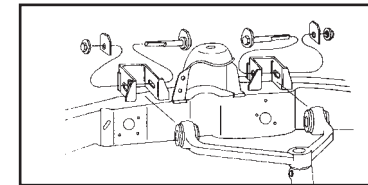
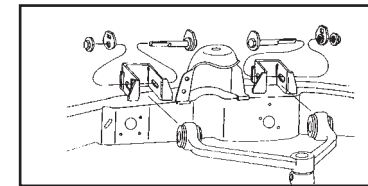
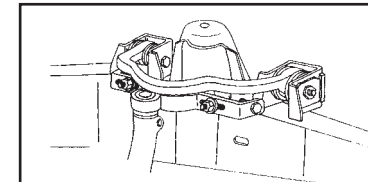

Figure No. 1
Figure No. 2
Figure No. 3
- 10) Install this assembly in vehicle in same direction as prior factory bolt (**See Figure No. 1**).
- 13) If only one side of the vehicle needs a kit, proceed with alignment. To adjust, use a 3/8" ratchet or breaker bar in square hole in cam next to nut (**See Figure No. 2**).
Los brazos de control superiores son trabados dentro del soporte del chasis por medio de cuatro placas "cuadradas" (2 por cada lado) instaladas en la fábrica (vea la figura No. 1). Estas placas tendrán que ser reemplazadas por levas de ajuste de diseño de "lágrima" con el fin de permitir el movimiento para ajustar el camber y el caster (vea la figura No. 2).
Si el vehículo tiene un problema de "avance" o de "tiro" después de haber efectuado los ajustes de alineamiento con levas, (disparidad de caster), un ajuste de caster separado es proporcionado en el brazo superior derecho de la suspensión delantera únicamente (vea la figura No. 3).
Beginning with the 1995 model year many new light trucks and sport utility vehicles manufactured by Ford Motor Company have a new suspension design. The front suspension design consists of a short/long arm suspension (SLA) with torsion bars replacing conventional coil springs. The upper control arms are locked within the frame bracket by four factory installed "square" plates (2 per side) (see figure No.1). These plates must be replaced with "tear drop" designed adjusting cams to allow movement for the adjustment of camber and caster see figure No. 2). If the vehicle has a "lead" or "pull" problem after alignment adjustments have been made with cams, (caster disparity) a separate caster adjustment is provided on the right upper front suspension arm only (see figure No.3).
- 7.) Install "Quick Cam" onto factory bolt in place of "square" plate with washer (spacer) against upper control arm bracket. This spacer provides clearance so cam does not bind against inside corners of bracket (see figure No. 2).
- 7.) Instale la leva "Quick Cam" en el perno de fábrica a cambio de las placas "cuadradas" con la arandela (espaciador) contra el soporte del brazo de control superior. Este espaciador suministra holgura de modo que la leva no se roce contra las esquinas interiores del soporte (vea la figura No. 2).
1. Remove both square factory fixed plates (on each shaft assembly 2-per side) (See Figure No. 1).
Note: There is a camber/caster alignment tool available from your alignment products supplier which allows you to push, pull, or hold the control arm in the frame slots to attain alignment specifications quickly (See Figure No. 2).
Rear camber is adjusted by moving the lower control arm most rearward mounting bolt. From the factory this mounting bolt is held in place by a pre-set alignment plate (one per side See Figure No. 3). These plates must be removed and replaced with washers to allow for adjustment of the arm in the frame slot. A pry bar may be used between the lower arm and the frame slot.